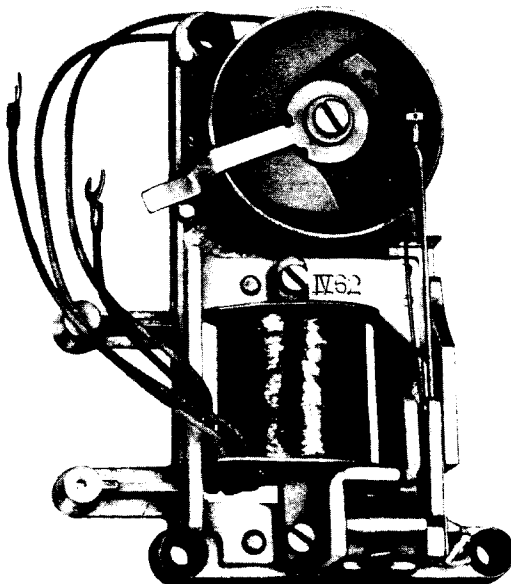

Fig. 1—D1C Ringer
2.01 ♦Fig. 1 and 2 show typical D1-Type ringers and their component parts.♦